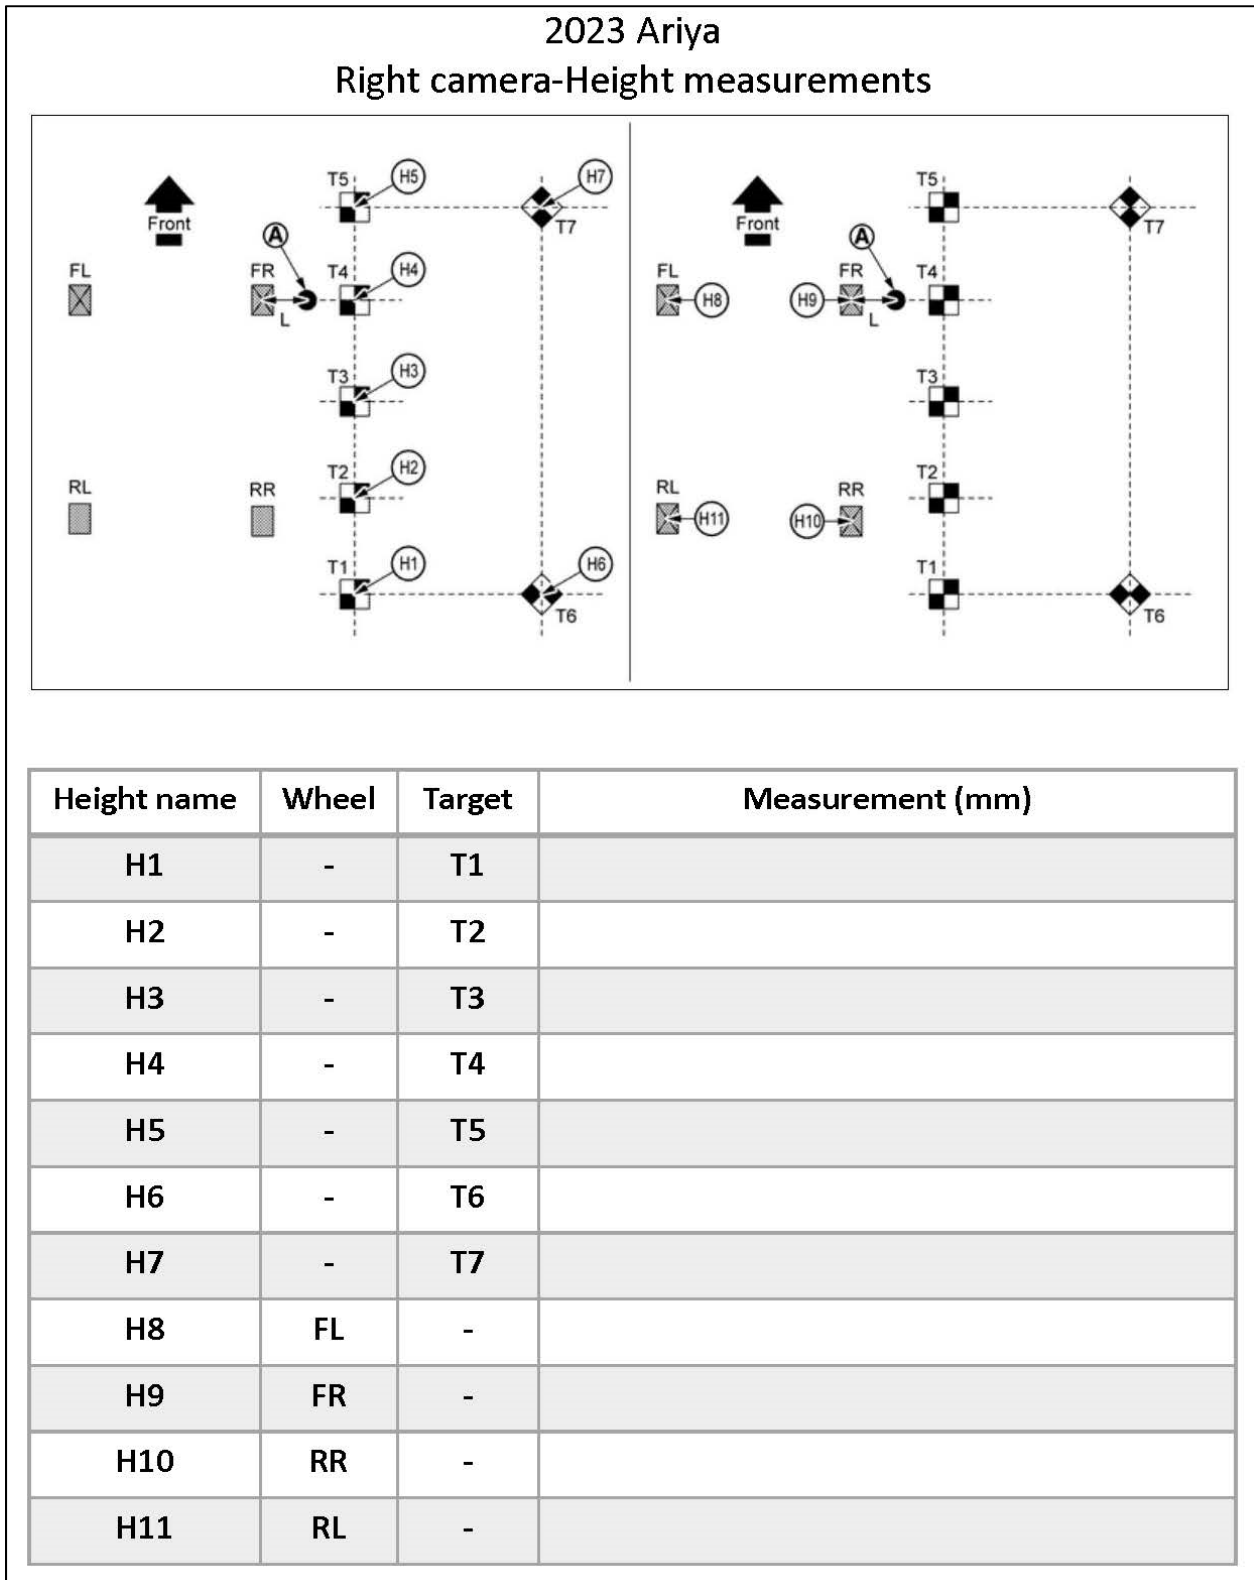

Figure 54
39. Refer to steps 35 - 37 on page 24 to set up the laser level to measure the height of the passenger (RH) side camera, and then document the measurements in Figure 54.
IMPORTANT: All measurements must be in millimeters (mm). Refer to the illustrations in Figure 54 to ensure the correct measurement is documented in the correct order and for each calibration target.